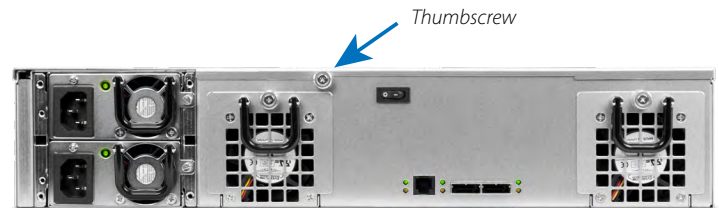

Figure 3.1.4a
3. Remove the top cover by loosening the thumbscrew on the back of the unit as pointed to in **Figure 3.1.4a**.